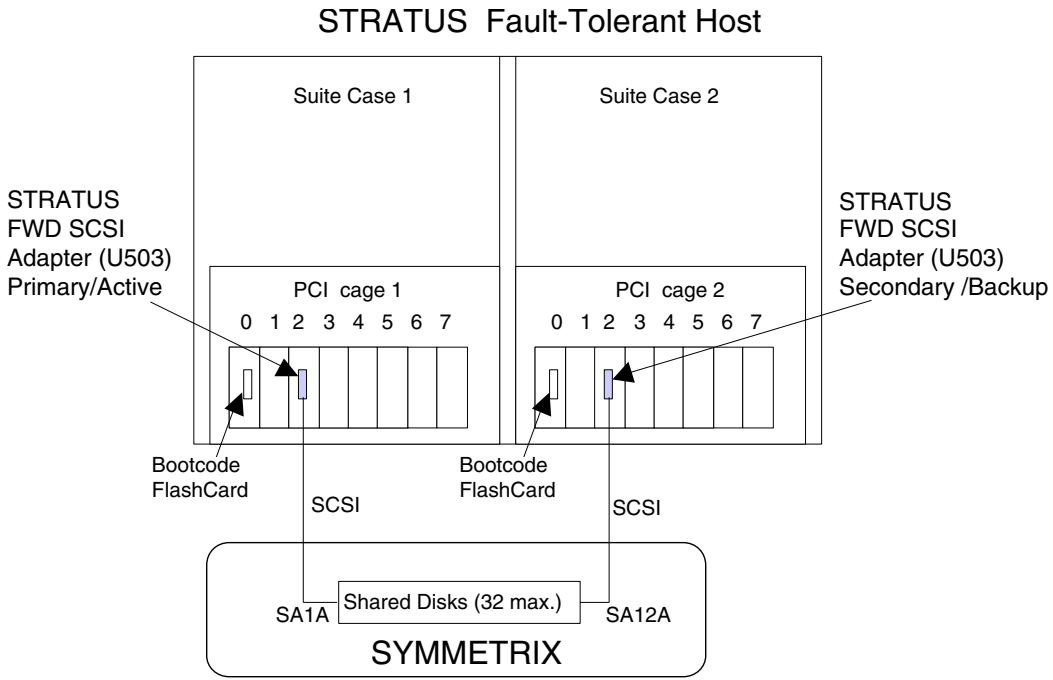
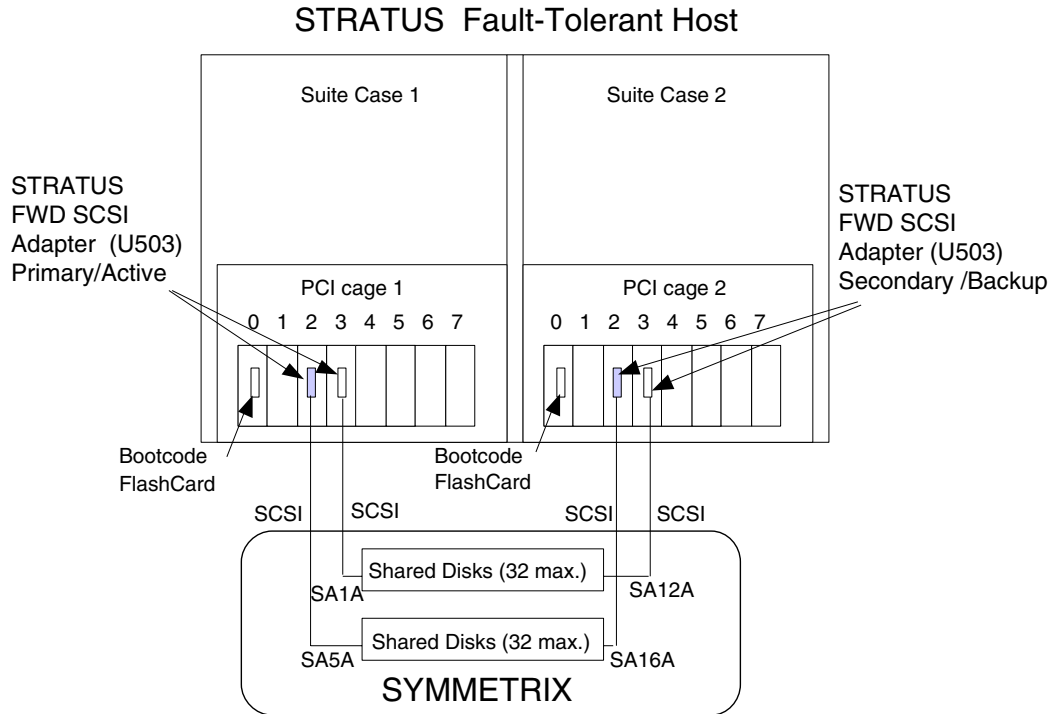

Figure 17-1 Host Cabling Configuration (7100)
Figure 17-2 Host Cabling Configuration (8000)
To support this high availability fault tolerance, the Stratus host must be cabled to the Symmetrix as shown in Figure 17-1 or Figure 17-2 (on the following pages). The Symmetrix devices must be configured as shared devices across two SAs.
The Stratus Continuum 400 Series host model AC POLO 7100 supports maximum of one U503 SCSI controller per PCI card cage as shown in Figure 17-1. The Stratus Continuum 400 Series host model AC POLO 8000 supports a maximum of two (pairs) of U503 SCSI controllers as shown in Figure 17-2.
Figure 17-1 below shows the Stratus Continuum 400 Series -- AC POLO 7100 model host cabling configuration for high availability.
Figure 17-2 below shows the Stratus Continuum 400 Series -- AC POLO 8000 model host cabling configuration for high availability.
Once the Symmetrix has been configured as specified in *Symmetrix Configuration* on page 17-7, and the Stratus host has been cabled to the Symmetrix as shown in Figure 17-1 or Figure 17-2, you can power up the Stratus Host.
- 2. The Stratus Host has been cabled to Symmetrix in a high availability configuration shown in Figure 17-1 and Figure 17-2.